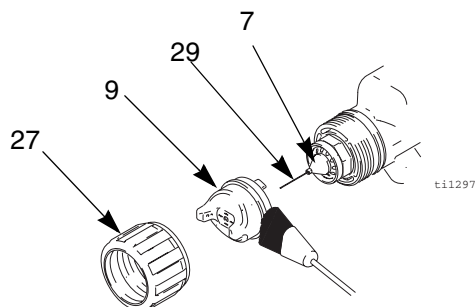

Fig. 16. Clean Air Cap and Fluid Nozzle
4. Remove the retaining ring (27) and air cap (9). See FIG. 16..